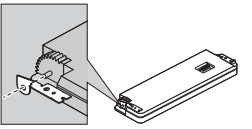

Fig. 11
1. Attach the holders to both sides of the front panel. (Fig. 11)